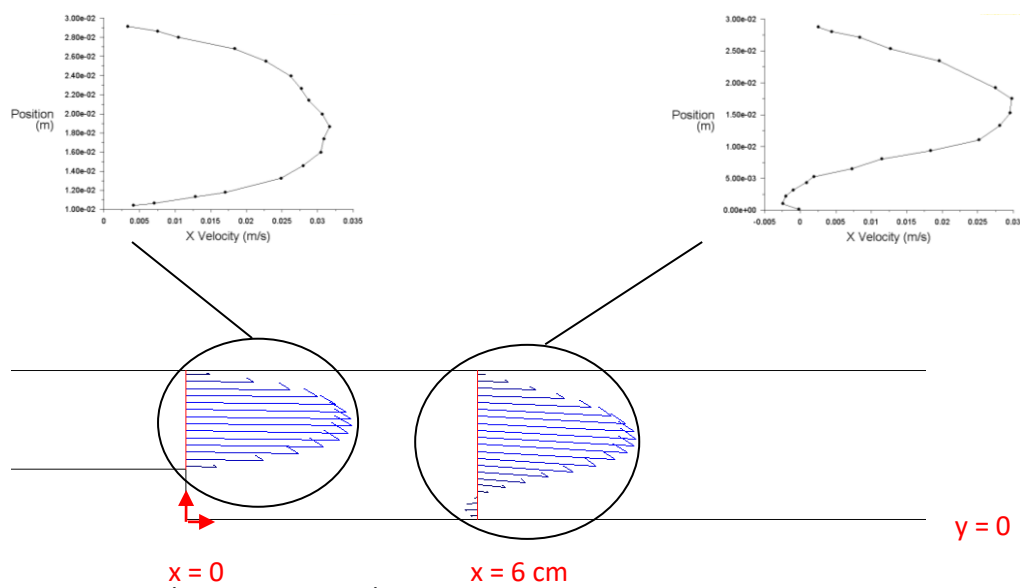

Fig. 3 Cuts at locations $x=0$ and 6.
14. Define additional surfaces (line segments) at $x=0\text{m}$, $x=0.06\text{m}$ and $y=0\text{m}$ using **Setting up Domain/Surface/Iso-Surface/Surface of Constant/Mesh/X-Coordinate** option (fig 3). Make the two vertical line segments: $x = 0\text{m}$, $x = 0.06\text{m}$ - specify appropriate values of x under **Iso-Values**. Make the horizontal line segment corresponding to the bottom wall, if necessary. Select the Y-coordinate under **Surface/Iso-Surface/Surface of Constant/Mesh**. Specify $y=0\text{m}$. Show the grid together with the three created line segments (**Mesh/Display**).
15. Compare the x-velocity profiles along : $x = 0\text{m}$ and $x = 0.06\text{m}$ with experimental data (fig. 3) using **Results / Plots / XY Plot**. The experimental data are given in the folder „dane_eksperyment“. Read the experimental profiles using **Load File**.
Think about how the variables should be assigned to the x and y axes (see fig 3). Deselect the **Position on x axis** . Assign the x-velocity component to the horizontal axis and y -distance to the vertical axis. In order to show the results along the y -direction (two vertical lines at $x=0$ and